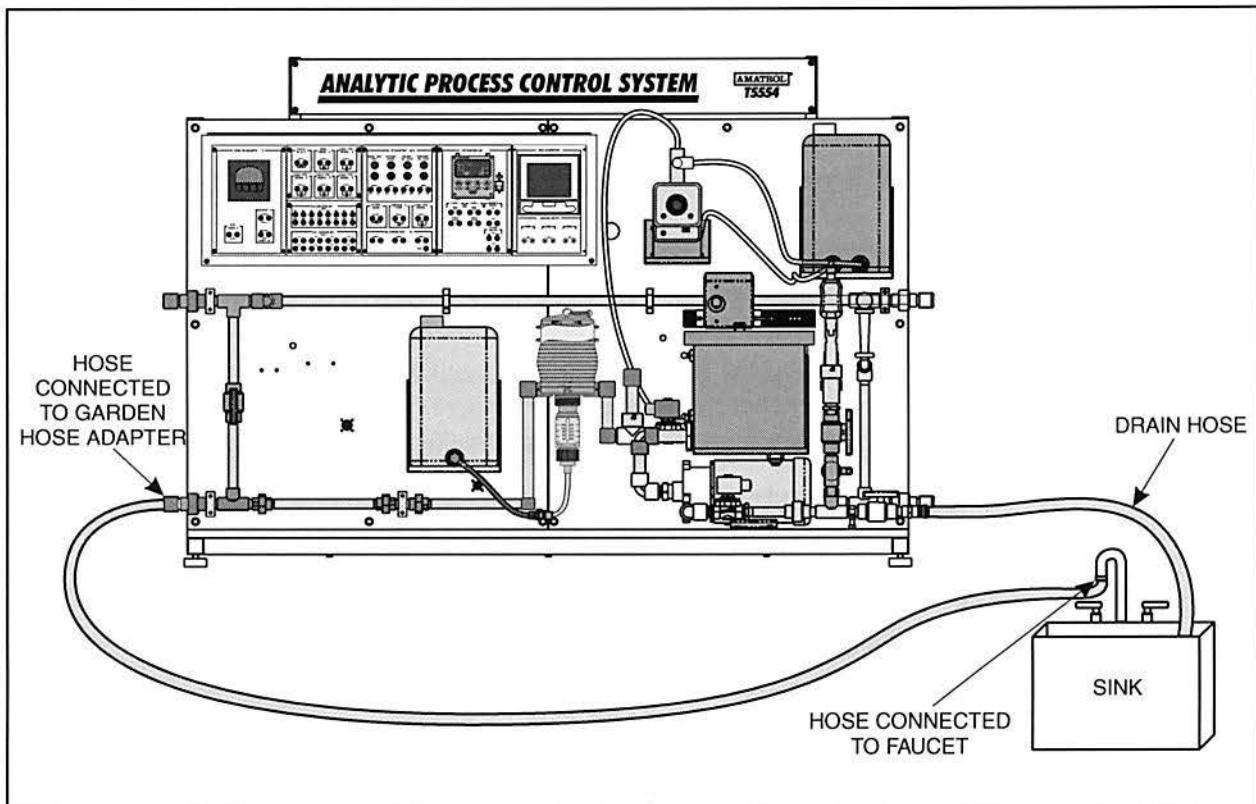

Figure 43. Garden Hose Connected between Faucet and Garden Hose Adapter
- ❑ 9. Locate another garden hose and connect it between the garden hose adapter and an available faucet, as figure 43 shows. However, DO NOT turn on the water faucet at this time.
- ❑ 10. Make sure a hose is still connected to the drain, as figure 43 also shows, and that the drain valve is open.